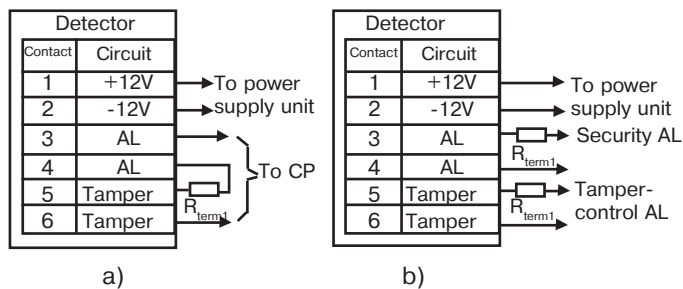

Figure 3
- figure 3 a) for connection to single alarm loop;
- figure 3 b) with tamper control connection to a singular loop.